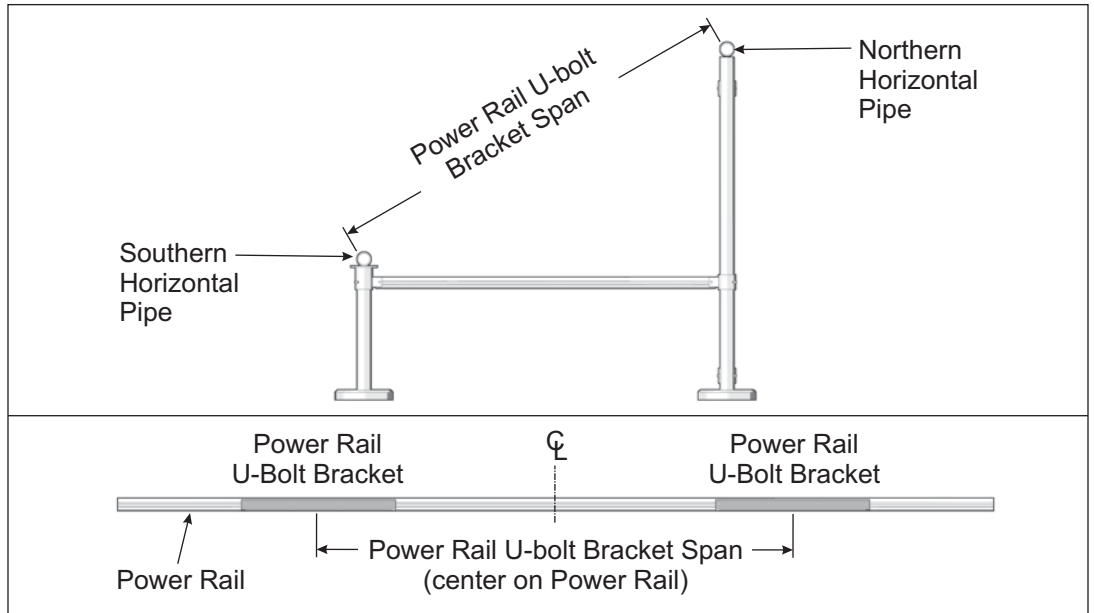

Figure 5-1: Determining the Power Rail U-bolt Bracket Spacing
- B. From the mid-point of the Power Rail, measure this distance outwards (in both directions) and make a mark. These marks represent the center location of each of the two Power Rail U-bolt Brackets. (See Figure 5-1)